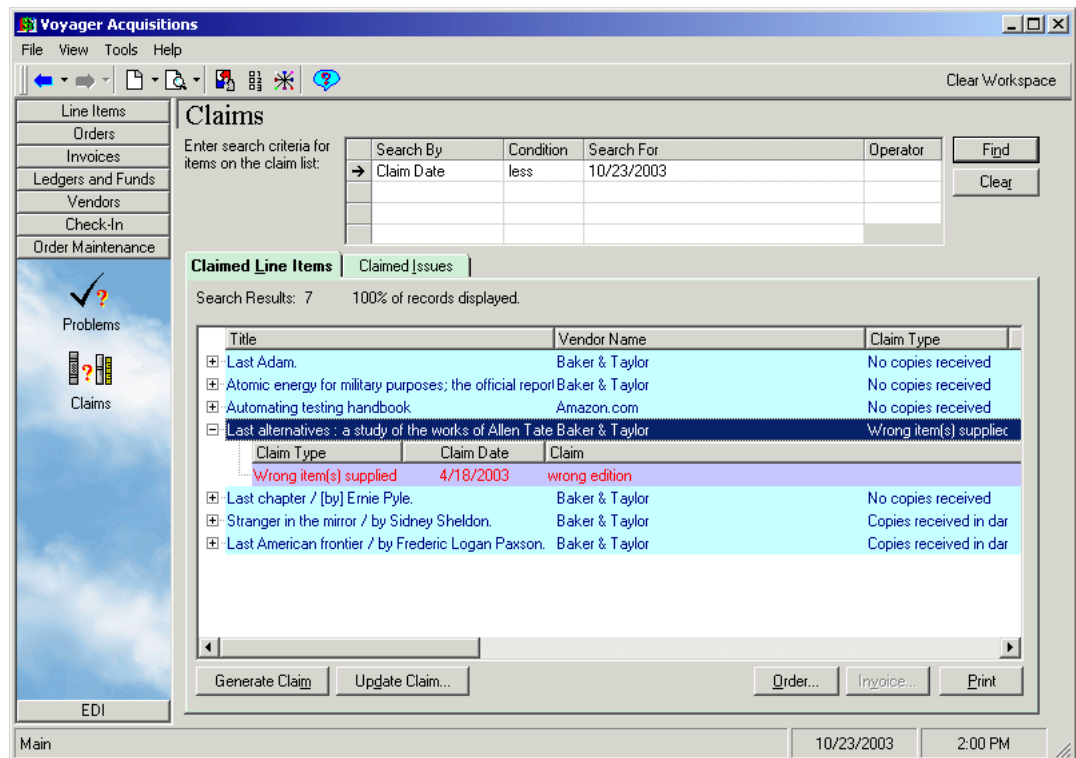

Figure 2-127. Claims workspace search results
8. To process an item, select it and click the wanted action button (see Figure 2-127). See Claims Workspace on page 11-20.